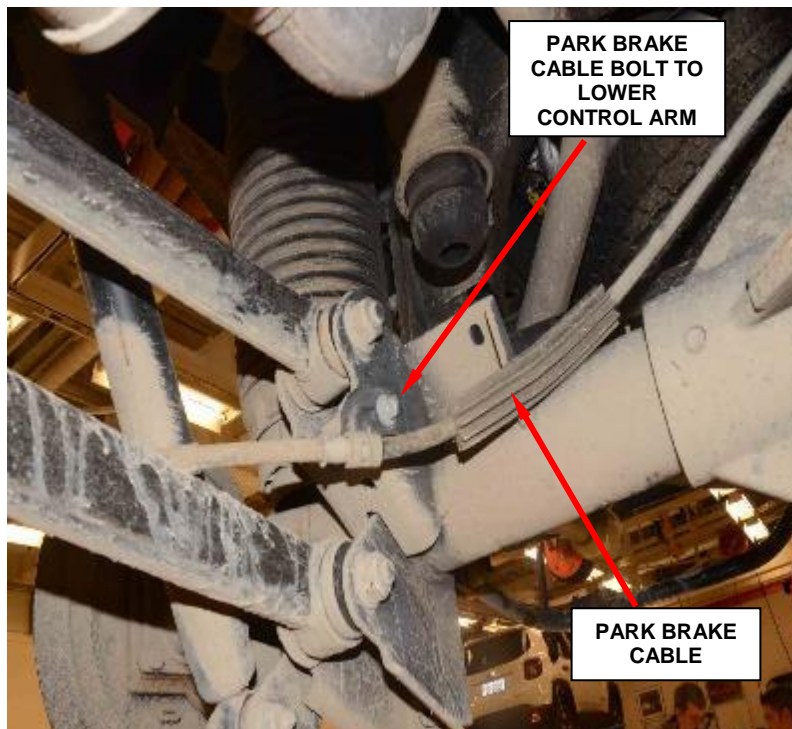

Figure 12 - Park Brake Cable Bolt
13. Remove and save the park brake bolt on the upper control arm bracket (Figure 12).